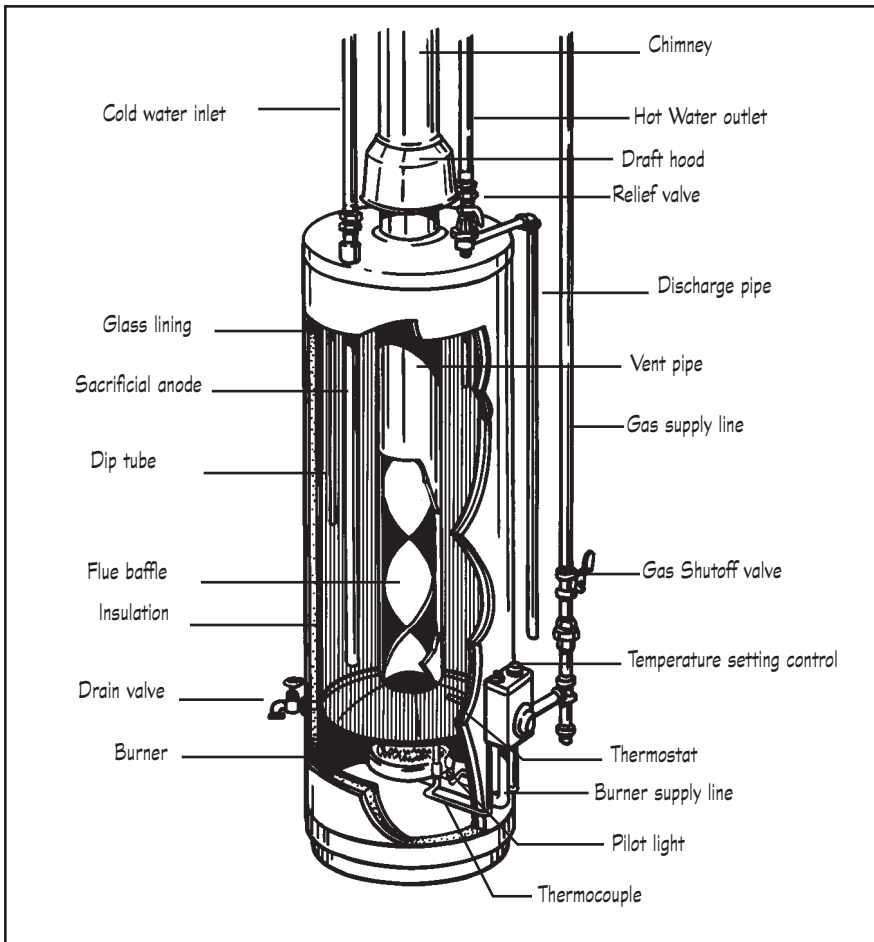

Figure 1
**Gas hot-water heaters.** The most common size natural gas water heater is 40 gallons. Typical gas models have a burner under the tank and an exhaust stack/heat exchanger which runs through the middle of the tank (Figure 1).